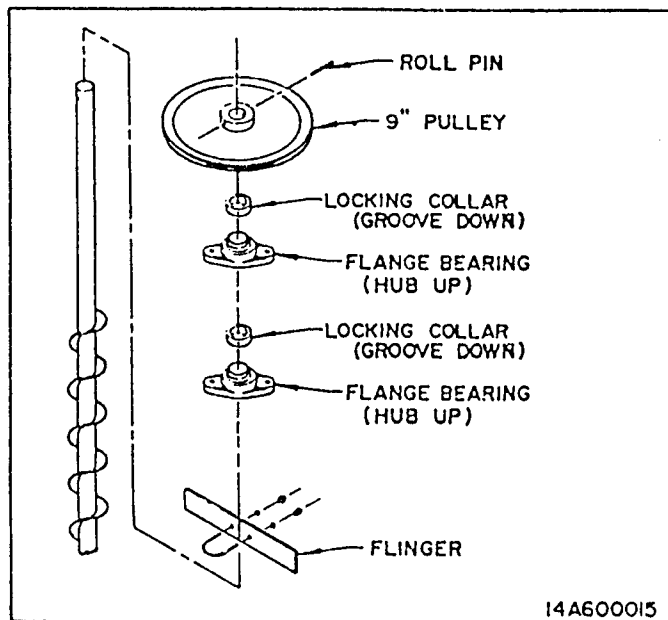

FIG. 15 - DOWN AUGER ASSEMBLY
2. Slide the following items over top of each auger shaft in order given. Fig. 15